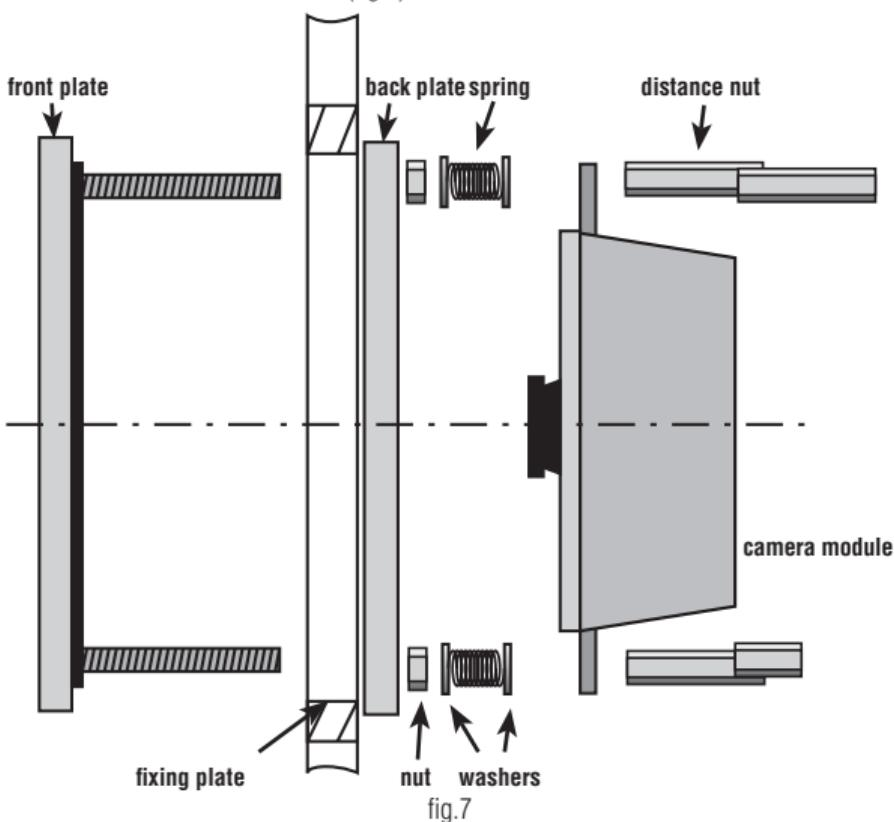

fig.7
Tip: To simplify installing the camera module, use a Niko flush surround plate (10-896/10-896-10). You can fix the flush surround plate and the camera module to the fixing plate by means of a handy screw system (fig.7).
c. Side view with installation order (fig.7)